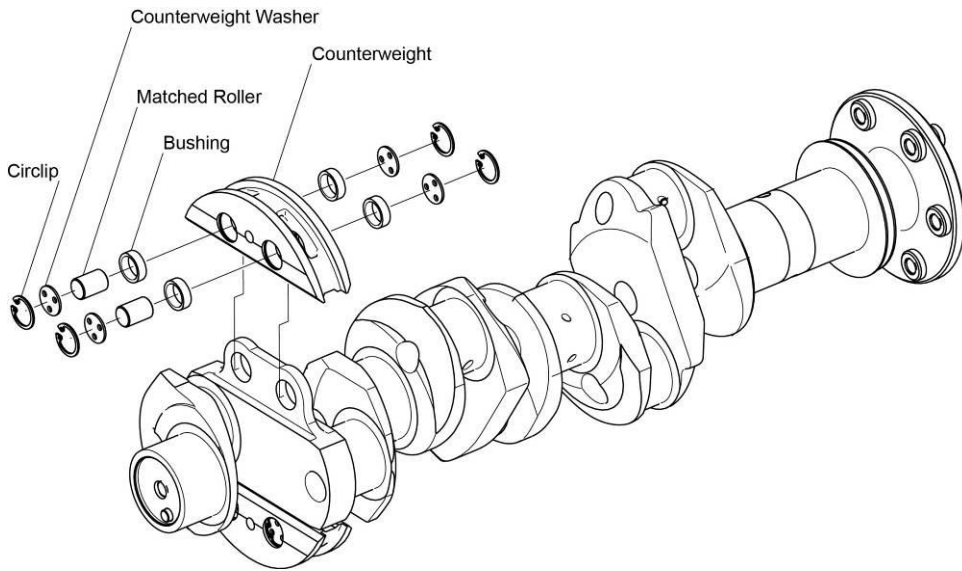

Figure 1
1. Remove the circlips, counterweight washers, and matched rollers from the counterweight (Figure 1). Discard the circlips and counterweight washers, regardless of condition.